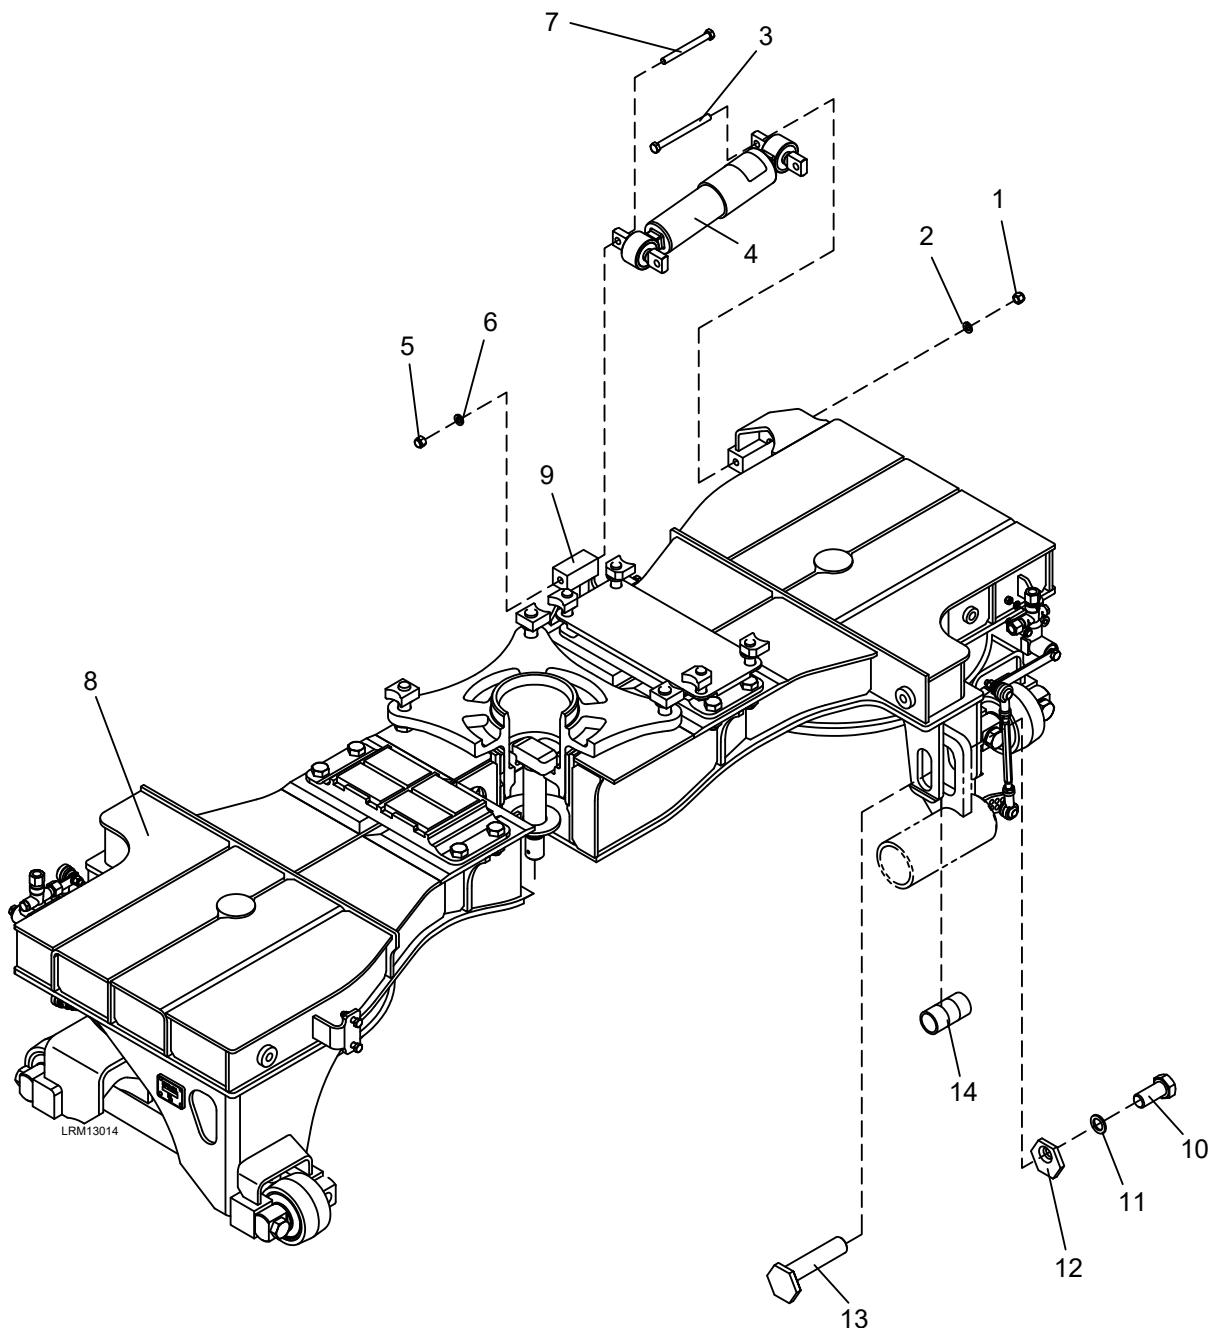

Figure 5-1: Motor Truck Bolster
1. Remove the two M12 lock nuts (1), M12 lock washers (2) and M12 x 145 bolts (3) from the lateral damper (4). See Figure 5-1.
2. Remove the two M12 lock nuts (5), M12 lock washers (6) and M12 x 125 bolts (7) from the lateral damper (4).
3. Remove the lateral damper (4) from the motor truck bolster (8) and the motor truck frame (9).
1. Remove the M20 x 35 bolt (10), M20 Nord-Lock washer (11) and special washer (12). See Figure 5-1.
2. Remove the special pin (13).
3. Remove the three collars (14).